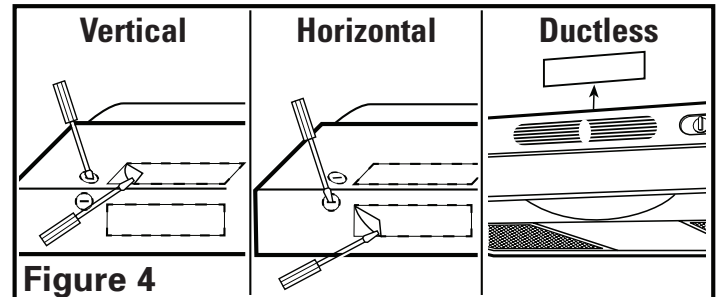

Figure 4
- 2a. **Horizontal or Vertical** - Remove the appropriate square knockout by inserting a screw driver under the edge and break the tabs holding it in place. Peel back with pliers (**Figure 4**).
- 2b. **Ductless** - Lift up and remove the hood's vent insert located behind the grill, exposing the front air slots. Do not use a screwdriver or any other object that could scratch the hood (**Figure 4**).
3. Determine where the electrical service will enter the hood and remove the appropriate electrical knockout by inserting a screw driver into the slot and rocking back and forth until the knockout comes loose (**Figure 4**).
NOTE: FOR DUCTLESS INSTALLATIONS ONLY, if you did not already do so in the earlier steps, remove the vent insert from behind the grill on the outside of the hood (**Figure 4**).